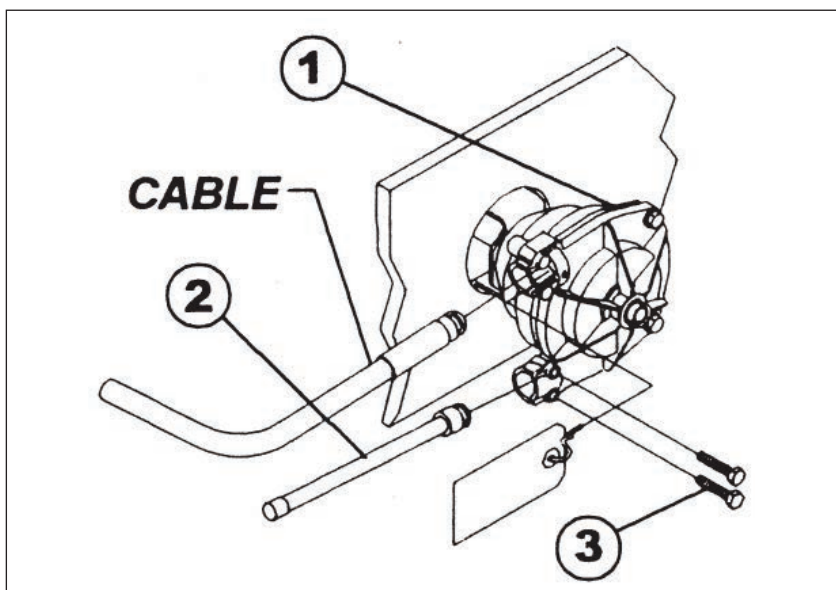

Figure 2.
**STEP 2.** Remove protective sleeve from cable end, making sure that dirt does not get onto the lubricated cable end. Feed cable end into the **UPPER** Helm entry spigot until it contacts the internal gear, then turn the steering wheel counterclockwise to draw the cable fully into the helm, (see figure 2). Continue turning the steering wheel until the end fitting of the cable is fully inserted into the entry spigot, and wheel cannot be turned further. During this you may hear a click as the locking mechanism engages. Turn steering wheel fully in the other direction until it cannot be turned any further, and check that cable end fitting is retained inside the entry spigot.
**STEP 5.** Feed spent travel tube (Item 2, Figure 2) over the exposed cable end until it is fully seated in the helm. Secure the tube to the helm with bolts (item 3) and tighten fully.